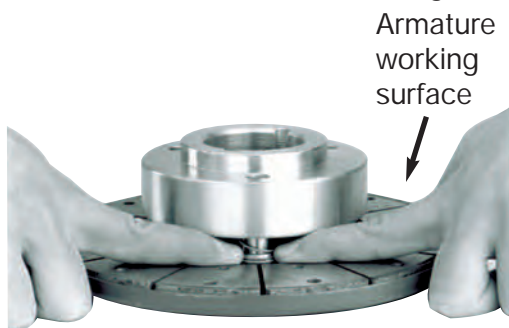

Figure 9 - Positioning the detent cups in the armature.
Step 6: Place the armature hub assembly on a flat surface with the armature working face up. Push down on each detent cup (Item 6) with your fingers, sliding the armature down until the armature will move no further. (See Figure 9)